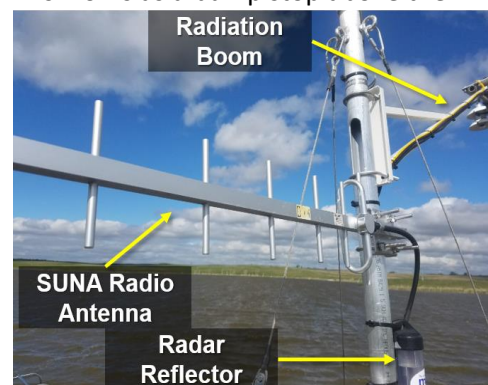

Figure 19. SUNA Radio Antenna and Radar Reflector on Met Mast
- h. Inspect SUNA radio antenna and radar reflector, which also mounts to the Mast (see Figure 19). The SUNA radio antenna should point towards the AIS Aquatics Portal.